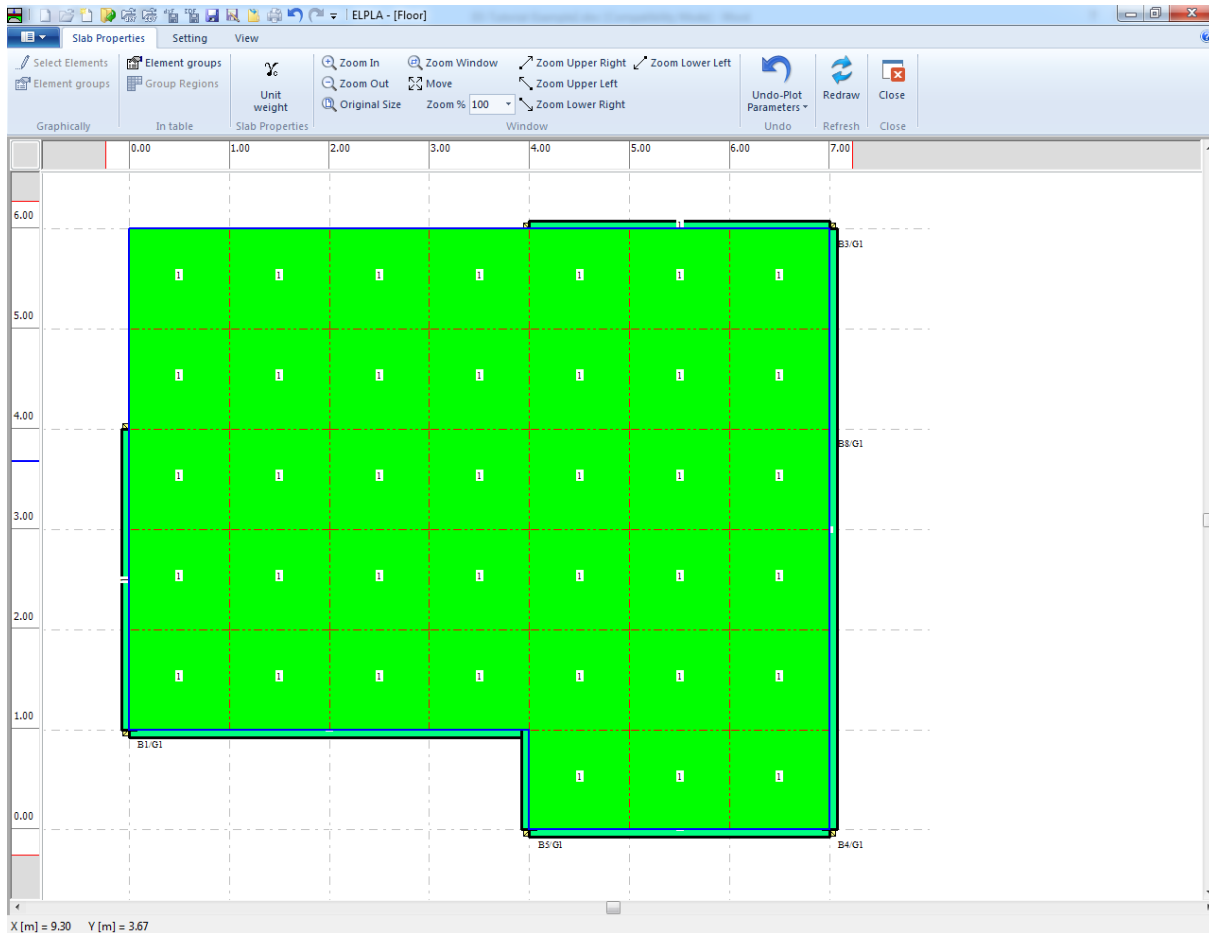
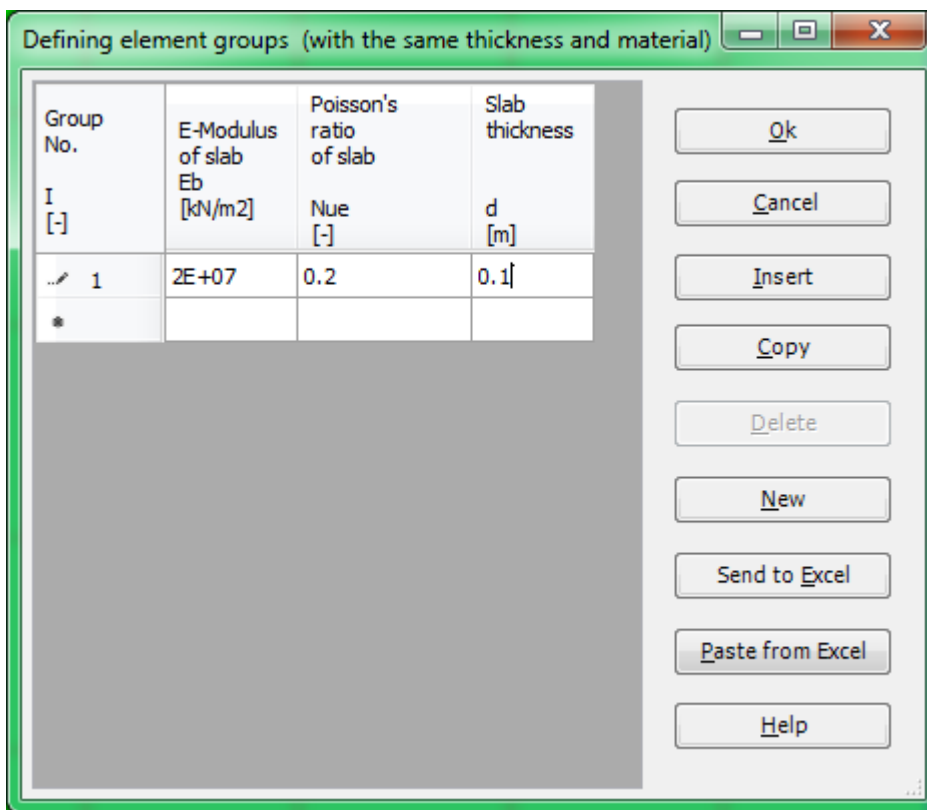
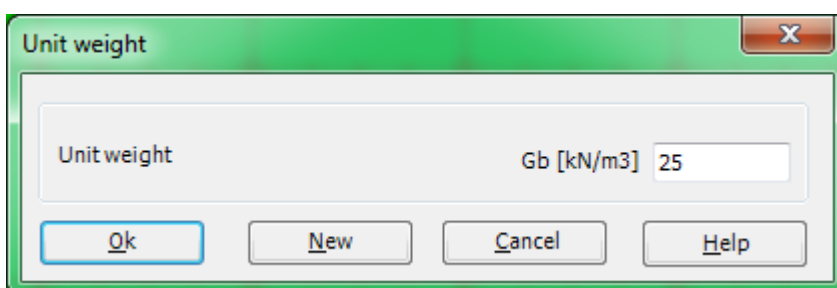

Figure 2.26 "Slab Properties" Window
Figure 2.27 "Defining element groups" list box
Figure 2.28 "Unit weight" dialog box
To define the slab properties choose "Slab Properties" command from "Data" Tab. The following Window in Figure 2.26 appears with default slab properties. The data of slab properties for the current example, which are required to define, are raft material and slab thickness.
- Choose "Element groups" command from "In Table" menu in the window of Figure 2.26. The following list box in Figure 2.27 with default data appears. To enter or modify a value in this list box, type that value in the corresponding cell and then press "Enter" key. In the list box of Figure 2.27, enter E-Modulus of the slab, *Poisson's* ratio of the slab and the slab thickness
- Choose "Unit weight" command from "Slab Properties" menu (Figure 2.26). The following dialog box in Figure 2.28 with a default unit weight of 25 [kN/m³] appears
- Choose "Save" command from "File" menu in Figure 2.26 to save the slab properties
- Choose "Close" command from "File" menu in Figure 2.26 to close the "Slab Properties" Window and return to ELPLA main window.